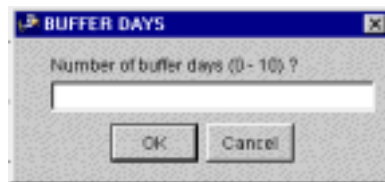

Figure 5.215 BUFFER DAYS Window
4. On the Tools menu, click Backward Plan ODD. The Buffer Days window opens (Figure 5.215).